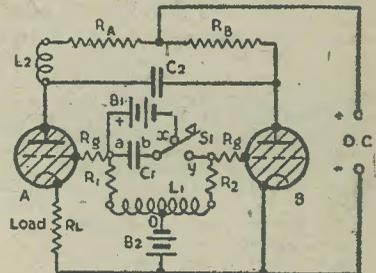

Fig. 7.—Generator of square-wave single pulses.
**Single- and Multiple-pulse Square-waveform Generator.**—A square-wave single-pulse generator or heavy-duty time-switch is shown in Fig. 7. It was originally developed for research on thermionic emission of oxide-coated cathodes in which the anode potential for measuring emission could only be applied for very brief
Fig. 9.—Current wave forms in circuit of Fig. 7. (a) current in  $R_A$  with  $L_2$  absent. (b) current in  $R_L$  with  $L_2$  absent. (c) current in  $R_L$  with  $L_2$  in circuit.